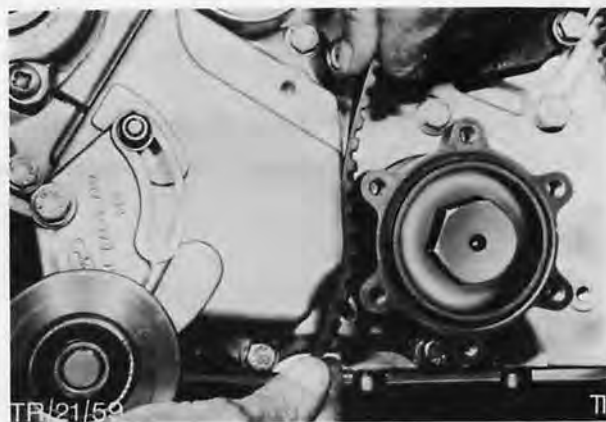

Fig. 135. Position toothed belt
16. Check crankshaft, camshaft and injection pump markings. Slacken toothed belt tensioner and position toothed belt, Fig. 135.